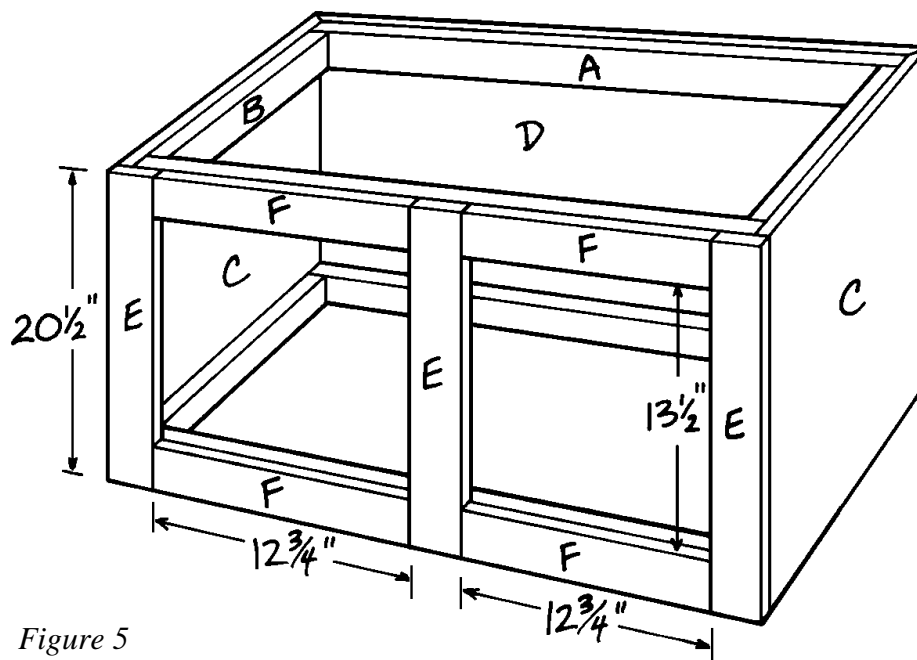

Figure 5
1. Cut three 20-1/2"-long vertical trim pieces (E) from 1 x 4 pine.
2. Glue one vertical trim piece (E) to the left side of the cabinet, as shown in Figure 5, and insert 1-1/4" screws, spaced about 6" apart, through the vertical trim piece (E) and into the long inner supports (A) and the edge of the side (C).
3. Repeat Step 2 to attach a second vertical trim piece (E) to the right side of the cabinet.
4. Attach a third vertical trim piece (E) in the center of the cabinet, as shown in Figure 5, inserting two 1-1/4" screws through the top and bottom of the vertical trim piece (E) into the long inner supports (A) at each joint. Note that the spacing between the vertical trim pieces (E) should be exactly 12-3/4".
5. Cut four 12-3/4"-long horizontal trim pieces (F) from 1 x 4 pine.
6. Using *Figure 5* as a guide, glue the four horizontal trim pieces (F) flush with the top and bottom of the cabinet, between the vertical trim pieces (E). Secure with three 1-1/4" screws driven through each of the four horizontal trim pieces (F). Note that the opening between the top and bottom horizontal trim pieces (F) should be exactly 12-3/4" x 13-1/2".